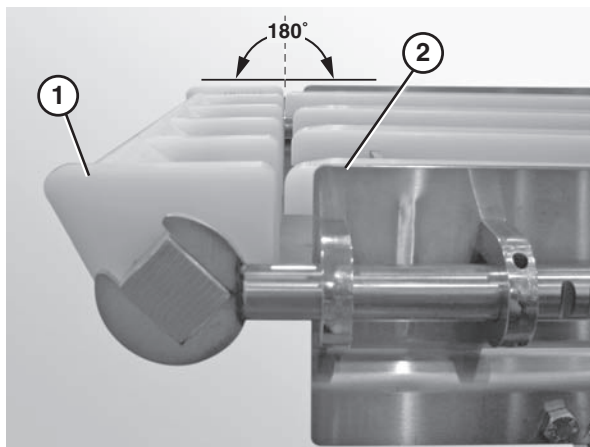

Figure 15
3. Ensure that the nose bar pucks (**Figure 15, item 1**) are in line with the conveyor frame (**Figure 15, item 2**).